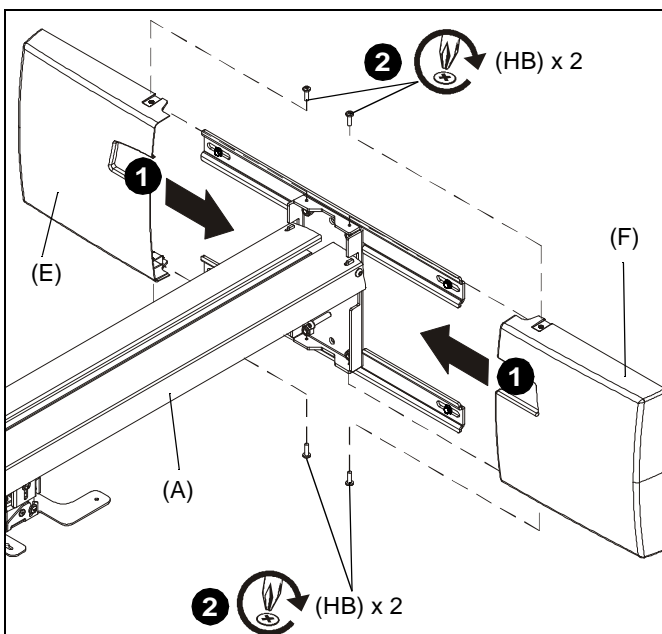

Figure 19
1. Add right and left plastic covers (E and F) over brackets. (See Figure 19)
2. Fasten covers using four 10-24 x 5/8" Phillips cap head screws (HB). (See Figure 19)